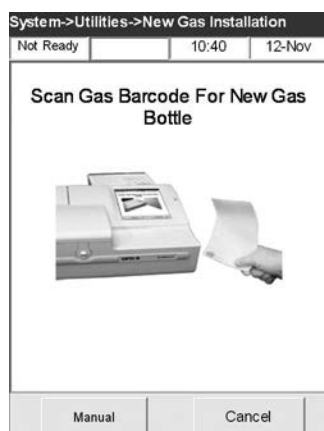

Fig. 6-33 Scan Bar Code
5. When prompted (Fig. 6-33), scan the new gas bottle bar code by holding it 2-3 inches (5-8 cm) from the bar code scanner located on the bottom right-hand corner of the analyzer.